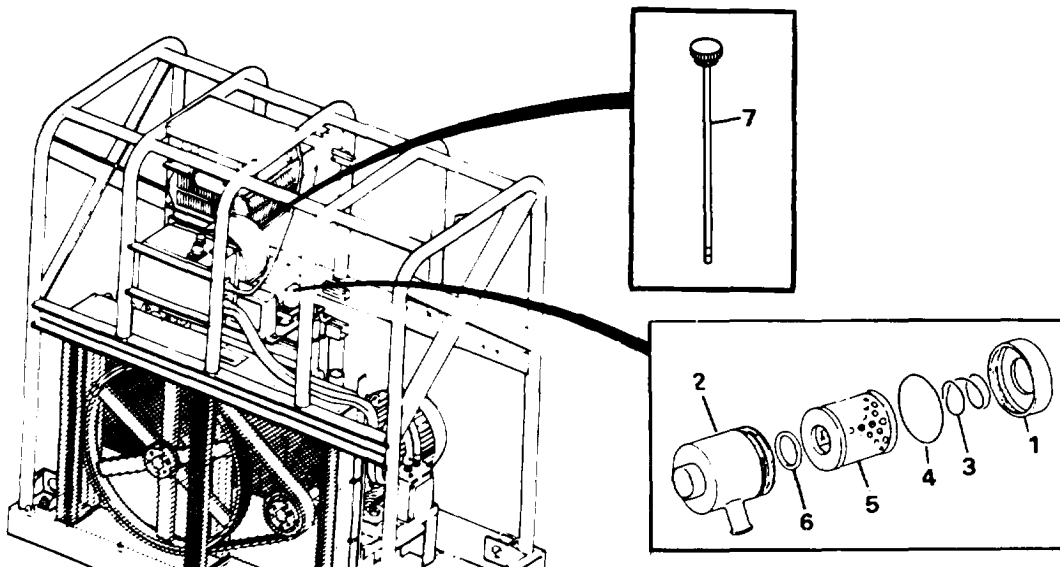

Figure 3-19. Air Compressor
- b. Unscrew the inlet filter cover (1, Figure 3-19) from housing (2).
- c. Remove the spring (3), seal (4), filter element (5), and seal (6) from the housing (2).
- e. Check oil level dipstick (7). Oil should be between marks at bottom of dipstick.